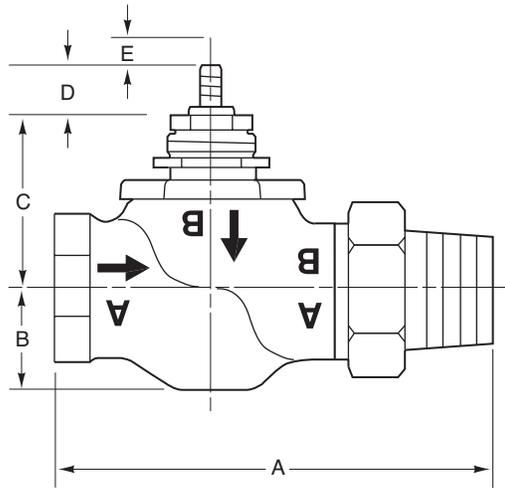

Figure-6 Dimensions for VB-7211-0-4-P Series Straightway Valve Bodies.
**Table-11 Dimensions for VB-7211-0-4-P Series Straightway Valves (Figure-6).**